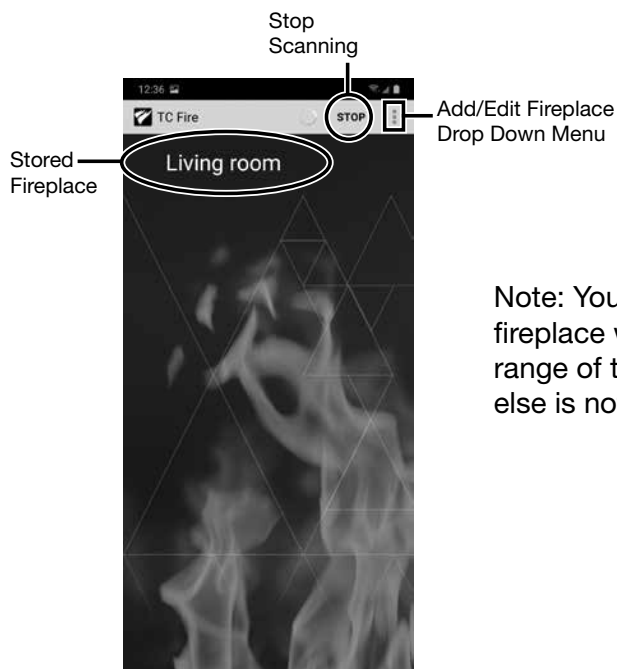

Figure 27: Main Screen.
2. From your Android device, open the app and go to the “Add /Edit Fireplace Drop Down Menu” (Figure 27).